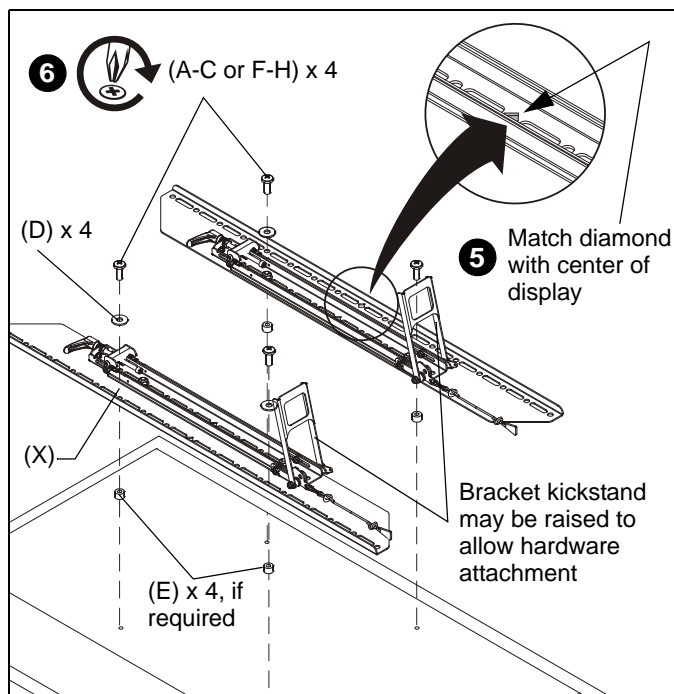

Figure 12
2. Select screw *diameter* by examining hardware (A-C and F-H) (6mm or 8mm) and comparing with mounting holes on display. (See Figure 12)
- Spacers are **NOT** required if mounting holes are not recessed and interface brackets (X) can lay flat against display.
- Spacers (E) **ARE** required if mounting holes are recessed, or if protrusions prevent interface brackets (X) from laying flat.
4. Select screw *length*: (See Figure 12)
- By hand, insert **SHORTEST** length screw of selected diameter (A or F) through 3/16" washer (D, if using screw A), bracket (X), selected spacer (E, if required), into display mounting hole. Do **NOT** thread screw into hole at this time.
5. Make sure diamond on interface brackets is even with center of display. (See Figure 12)
6. Use selected screws (A-C or F-H), washers (D, if using screws A, B or C) and spacers (E), if necessary, to connect interface brackets (X) to back of display. (See Figure 12)